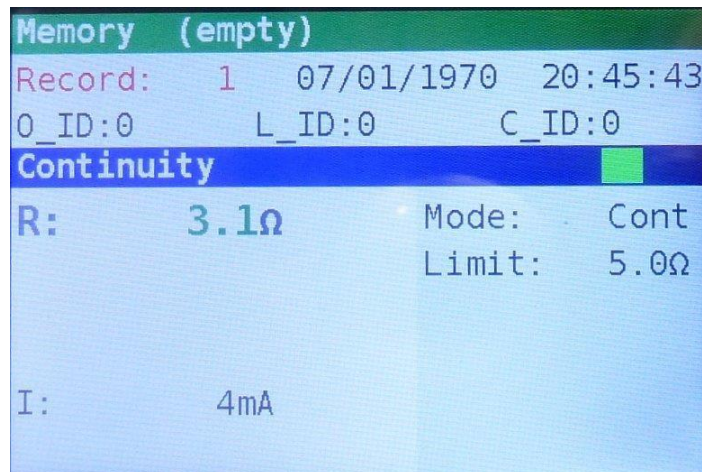

Figure 8.4: Save results
Step 2 Press the **MEM** key. The following is displayed (Figure 8.4):
When a measurement was made, a screen as in figure 8.4 is shown. Press then the **UP** or **DOWN** key to enter the record list.